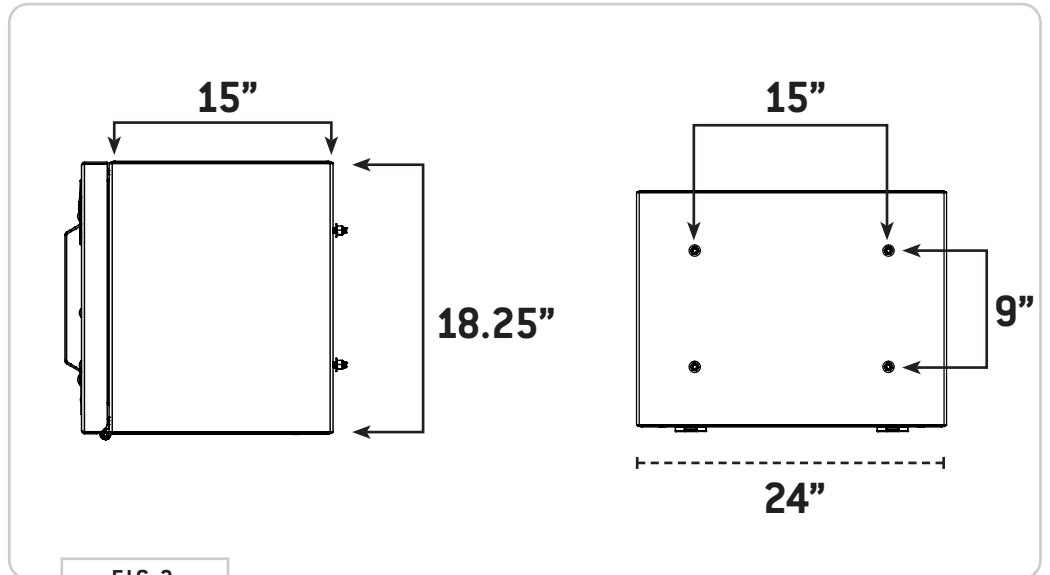

FIG 2
1.1 Dry fit the box to your mounting surface and determine the desired height of install. If you'd rather measure, see **FIG 2** for distances between the mounting points.